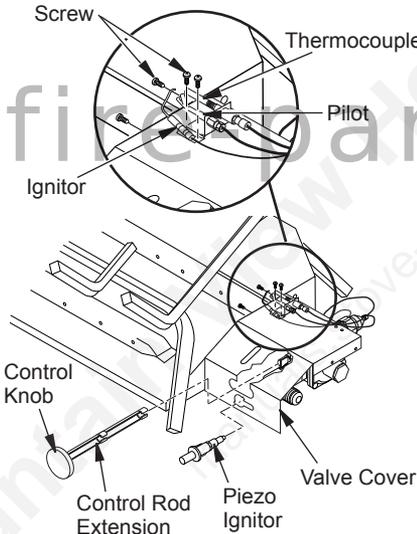

Figure 7 - Removing/Installing Cover, Control Knob, and Piezo Ignitor
2. Remove screws that attach pilot assembly to valve cover and valve cover to burner pan (see Figure 7).